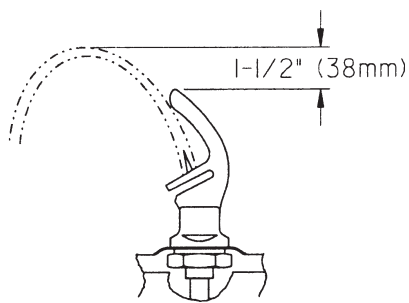
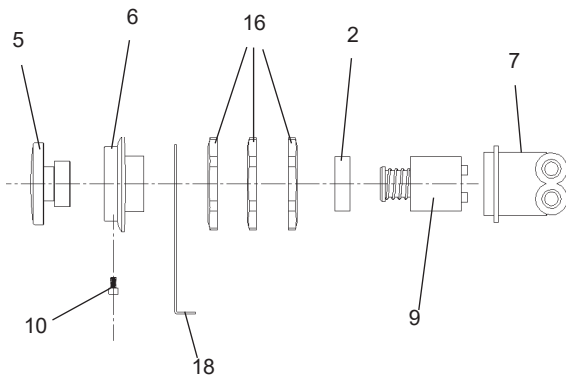

Figure 16 – Stream Height
Figure 17 – Push Button Assembly
10. **Check stream height from bubbler.** Stream height is factory set at 35-40 PSI. If supply pressure varies greatly from this, adjust the screw on regulator item 9 by using a small screwdriver through the small hole in the push button item 5 (See Fig.17). Clockwise adjustment will raise stream height and counterclockwise movement will lower stream height. For best adjustment, stream height should be approximately 1-1/2" (38mm) above the bubbler guard. (See Figure 16).
11. **Mount lower panel.** Loosen the two (2) #10-24 x 5/8" (16mm) screws at frame bottom lip. Slide upper tongue of lower panel under lower edge of already installed upper panel. Tighten previously loosened screws securely.